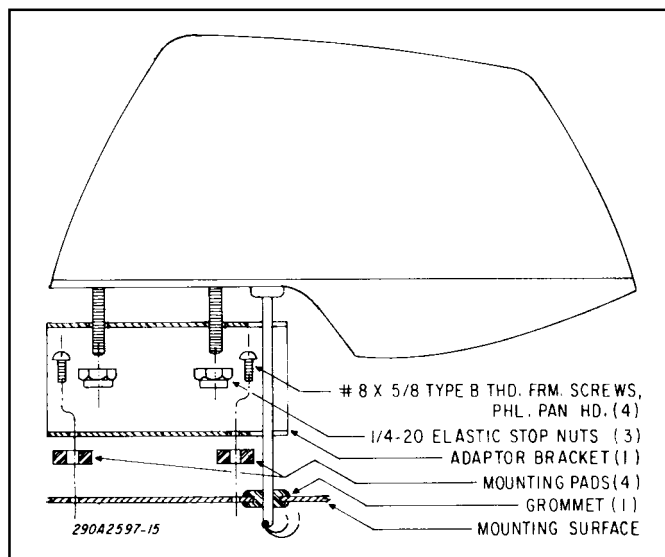

Figure 2.
B. Flat Surface Mounting (see figure 2).
7. Secure the adapter bracket to the mounting surface with the four #8 screws and four pads as shown in figure 2.